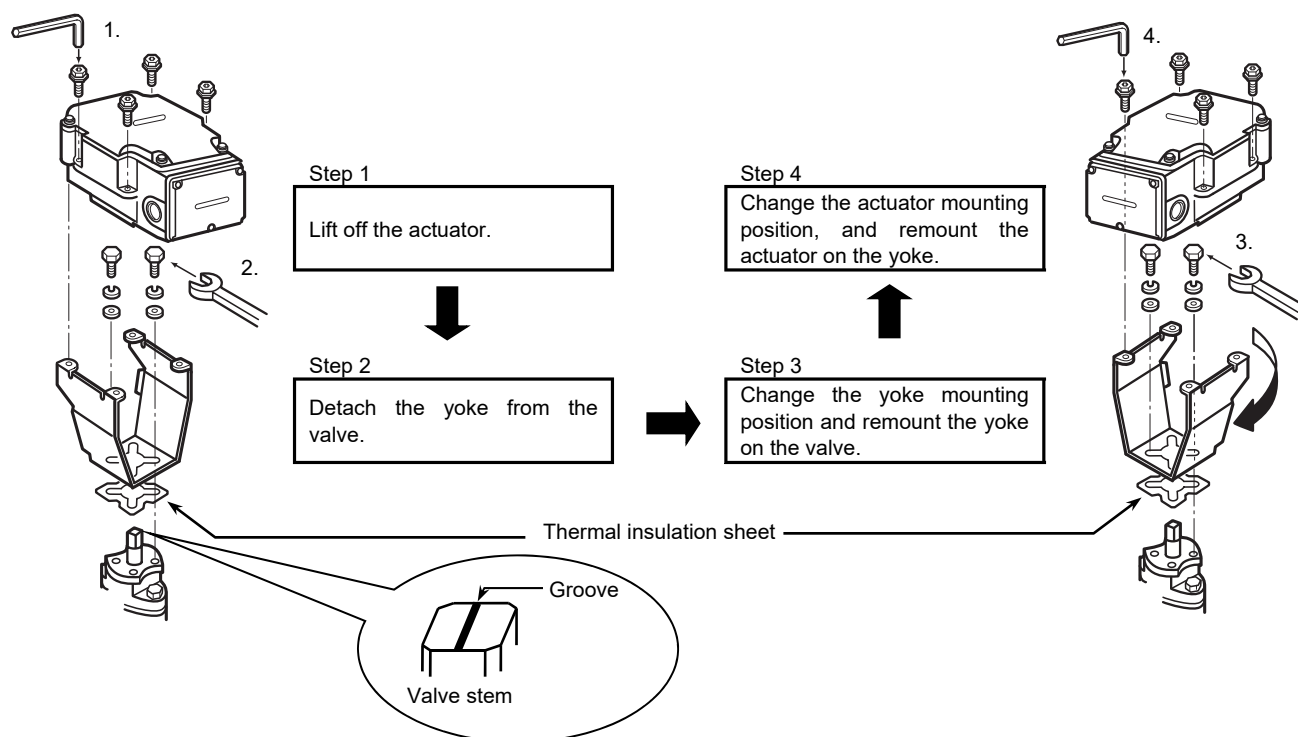

Figure 7. Changing the actuator mounting position
- 1) Remove the screws connecting the actuator and the yoke. Lift the actuator and detach it from the yoke. Make sure that the groove on the top of the valve stem is parallel to the pipes (indicating the valve in 100 % position). <Step 1 in Fig. 7>
- 2) Remove the screws connecting the yoke and the valve. <Step 2 in Fig. 7>
- 5) Before fixing the yoke to the valve with the screws, check that the actuator engages correctly with the valve stem (at the new mounting position). Check that the pointer of the actuator indicates 100 % position as well. Then, fix the yoke to the valve. <Step 3 in Fig. 7>
- 6) Mount the actuator. Place the actuator, with its facing direction changed, on the yoke, and fix with the screws. <Step 4 in Fig. 7>